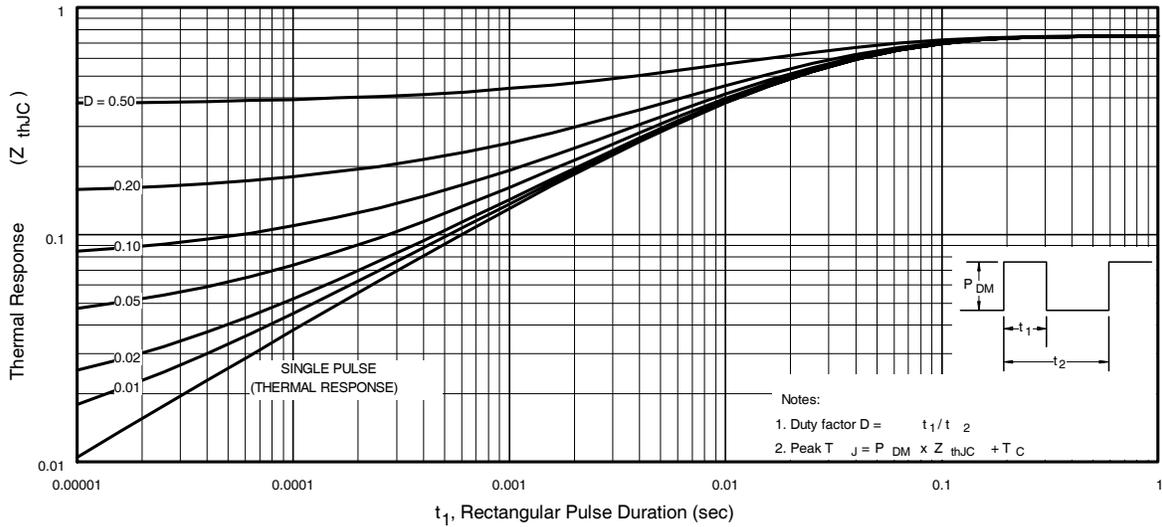

Fig 11. Maximum Effective Transient Thermal Impedance, Junction-to-Case
- ① Repetitive rating; pulse width limited by max. junction temperature. (See fig. 11).
- ② Starting T_J = 25°C, L = 0.049mH
$Z_{thJC}(D, t_{av})$ = Transient thermal resistance, see figure 11)